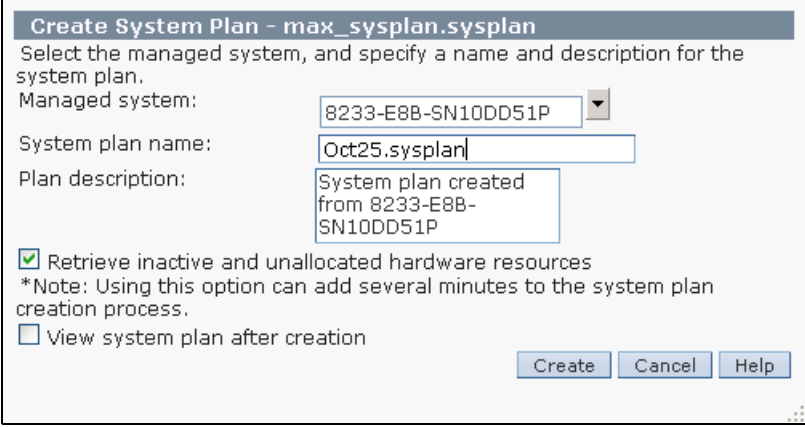

Figure 2-7 Create System Plan window
2. The Create System Plan window prompts you for the system name, sysplan file name, a description, and a choice to view the system plan after creation, as shown in Figure 2-7.